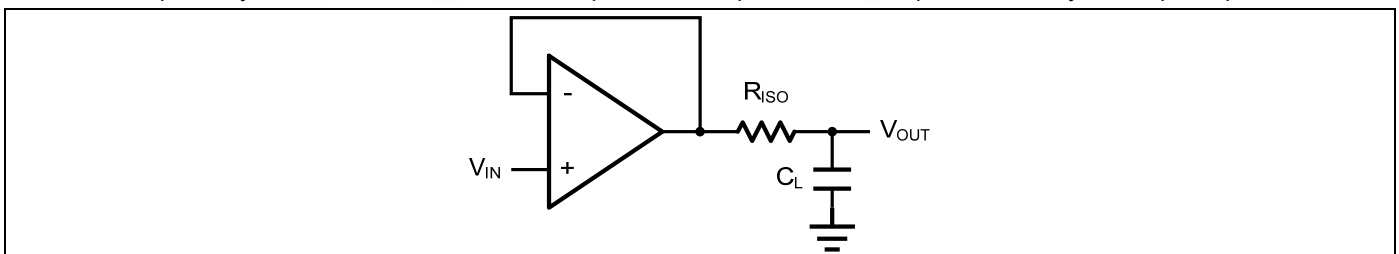
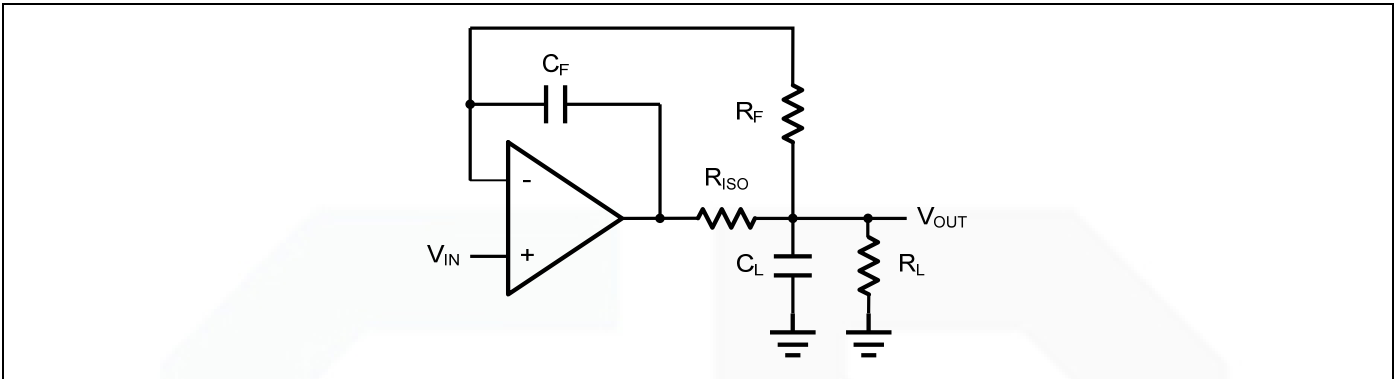

Figure 2 Indirectly Driving a Capacitive Load Using Isolation Resistor
Figure 3. Indirectly Driving a Capacitive Load with DC Accuracy
The GS600X family is optimized for bandwidth and speed, not for driving capacitive loads. Output capacitance will create a pole in the amplifier's feedback path, leading to excessive peaking and potential oscillation. If dealing with load capacitance is a requirement of the application, the two strategies to consider are (1) using a small resistor in series with the amplifier's output and the load capacitance and (2) reducing the bandwidth of the amplifier's feedback loop by increasing the overall noise gain. Figure 2 shows a unity gain follower using the series resistor strategy. The resistor isolates the output from the capacitance and, more importantly, creates a zero in the feedback path that compensates for the pole created by the output capacitance.
The circuit in Figure 3 is an improvement to the one in Figure 2.  $R_F$  provides the DC accuracy by feed-forward the  $V_{IN}$  to  $R_L$ .  $C_F$  and  $R_{ISO}$  serve to counteract the loss of phase margin by feeding the high frequency component of the output signal back to the amplifier's inverting input, thereby preserving the phase margin in the overall feedback loop. Capacitive drive can be increased by increasing the value of  $C_F$ . This in turn will slow down the pulse response.